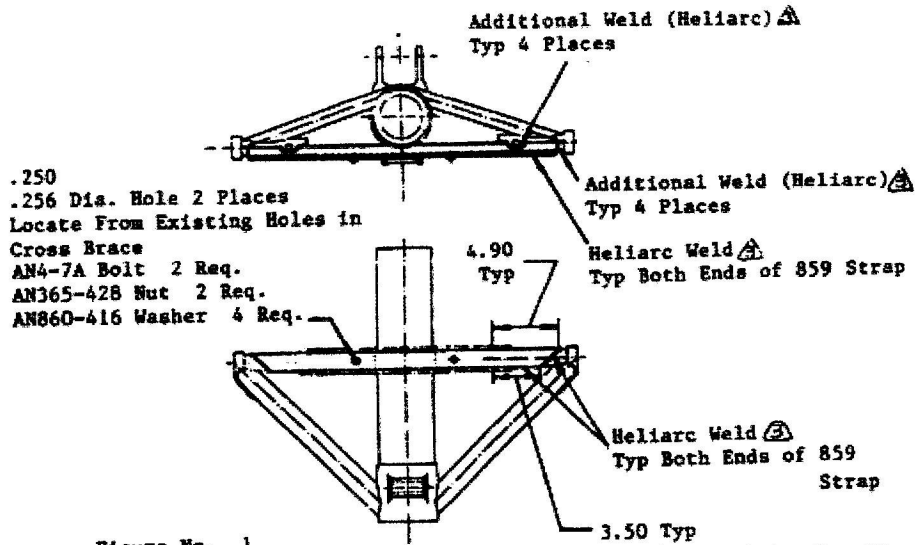

Figure No. 1
c. If no cracks are found by the inspections per paragraph 3a. above, modify cylinder and top brace assembly with Volpar P/N 859 strap reinforcement prior to further flight in accordance with the attached Figure No. 1.